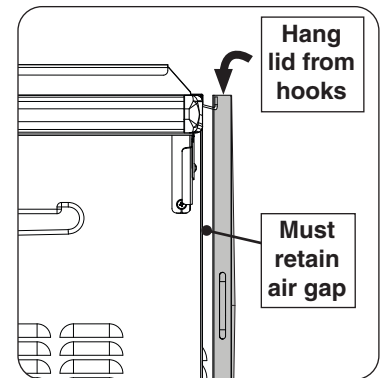

Fig. 21-1 Hang lid
1. Remove the griddle lid. The back of enclosure has hooks to hang the lid. When using the hooks, the lid must hang from the far end of the hooks to maintain proper ventilation when cooking. See Fig. 21-1.